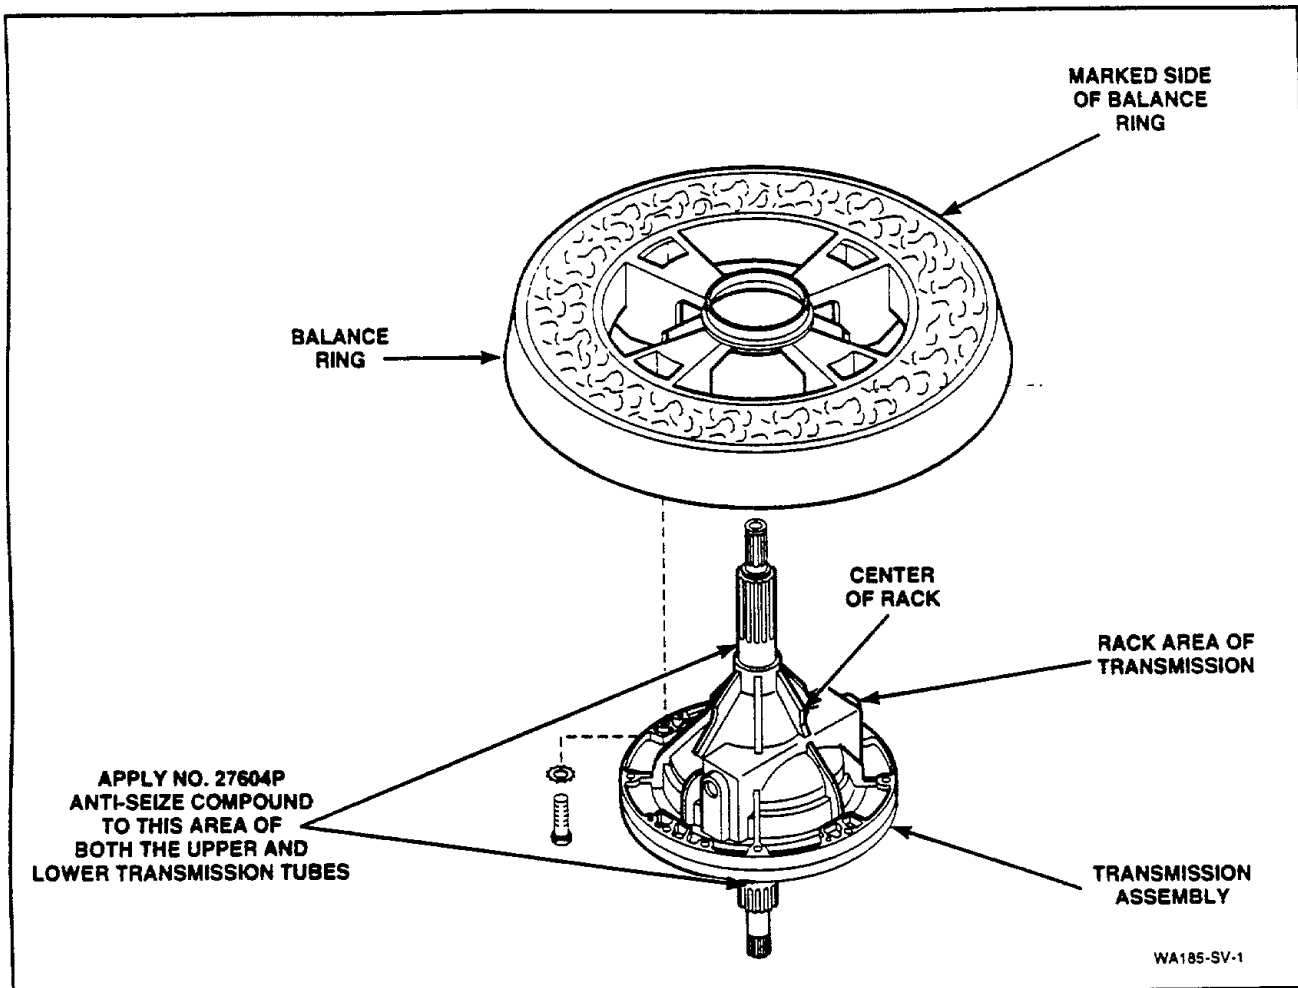

Figure 63
IMPORTANT: When installing the lower bearing housing, apply No. 27604P Anti-Seize compound to the area of the transmission tube that will be contacting the bearing, *Figure 63*.
IMPORTANT: When installing lower bearing housing, pivot dome and brake assembly, apply No. 27604P Anti-Seize compound to the area of transmission tube that will be contacting the bearing, *Figure 63*.
- z. Remove four screws and lockwashers holding the transmission assembly to balance ring, *Figure 63*, then lift transmission assembly straight up and out of balance ring and upper bearing.
IMPORTANT: When replacing or reinstalling the transmission assembly, it is important that No. 27604 Anti-Seize compound be applied to the area of the transmission tubes where they will be contacting the upper and lower bearings, *Figure 63*.
When reinstalling transmission assembly, note, if there is a mark located on outer edge of balance ring, this mark (if present) indicates the light side of ring. This light side must be installed at a 9 o'clock position with the center of the rack at 12 o'clock when viewed from top of transmission, *Figure 63*. Carefully lower transmission through balance ring and upper bearing. DO NOT DROP OR LOWER TRANSMISSION ASSEMBLY INTO POSITION TOO HARD, this can cause the bearing to move within the bearing housing which will cause vibration, noise, wear or no spin.
q. Apply Anti-Seize compound, No. 27604P, to the smooth area of both transmission tubes that will be contacting the upper and lower bearings, *Figure 63*.
IMPORTANT: When reinstalling the balance ring, note, if there is a mark located on the outer edge of the balance ring, this mark (if present) indicates the light side of the ring. This light side must be installed at a 9 o'clock position with the center of the rack at 12 o'clock when viewed from top of transmission, *Figure 63*.